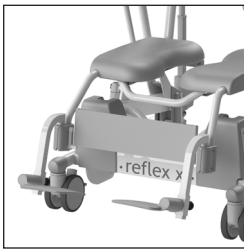

Figure 3. Folding up footrests.
- Before the client takes a seat on the Reflex XL, the footrests must be folded upwards (See *figure 3*). This creates enough space so that the client can easily sit down. If even more space is required, the footrests can be folded away (See *figure 4*). First the footrests are lifted slightly (1) and then turned away (2).